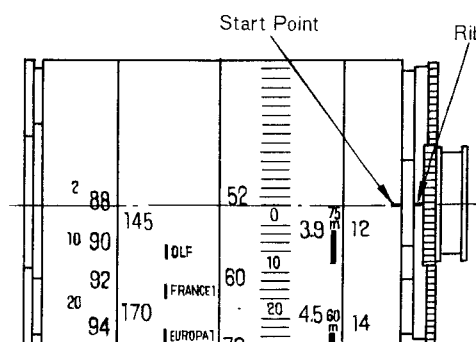

Fig. 4
6. Set the start point of the dial scale with the rib, as shown in fig. 4.
8. Set the start point of the dial scale with the rib, as shown in fig. 4.